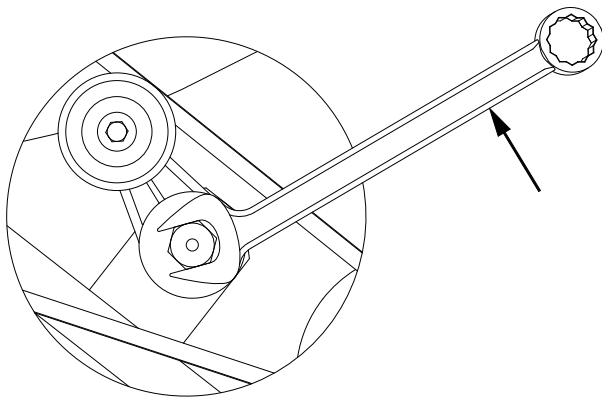
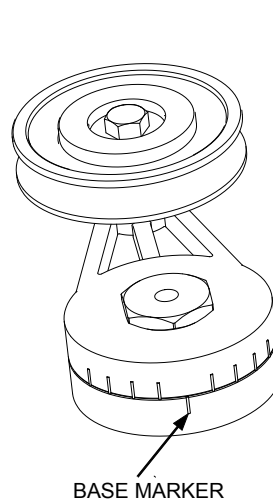
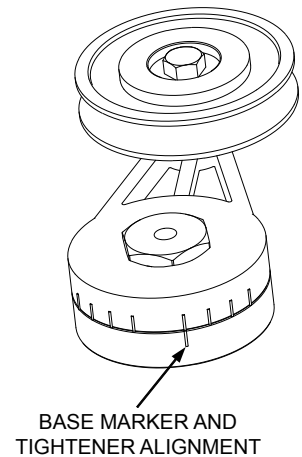

FIGURE 3
FIGURE 4
FIGURE 5
2. Place a wrench on the hex nut in the belt tightener body as shown in Figure 3 and a wrench on the belt tightener mounting fastener.
3. Using the wrench on the belt tightener body, apply pressure in the appropriate direction (see Figure 3) until the belt is properly tensioned. Note: The belt tightener body has marks on it as shown in Figure 4 representing degrees. The proper alignment after tightening the mounting bolt is shown in Figure 5.